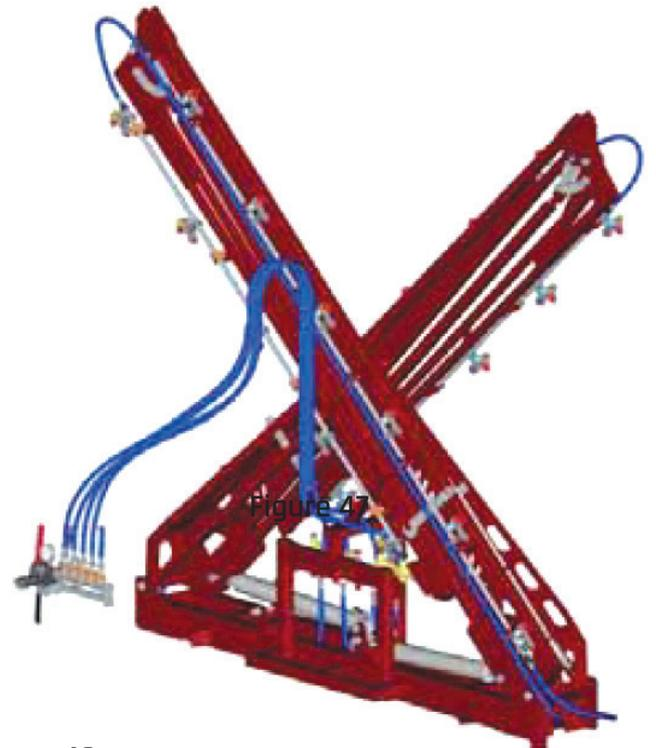

Figure 48
4. Four connecting hoses which extending from the booms are connects to taps of the regulator. The spraying booms are equipped with PVC pipes and rubber hoses mounted on the folding points, and the liquid is never passed through the rustable parts. (**Figure 48**)